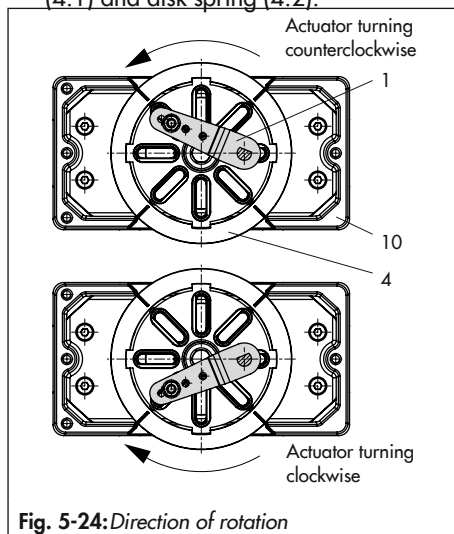

Fig. 5-24: Direction of rotation
6. Unscrew the standard follower pin (2) from the positioner's M lever (1). Attach the follower pin (Ø5 mm) included in the mounting kit to pin position 90°.
7. Mount connecting plate (6) for required G ¼ connecting thread or pressure gauge bracket (7) with pressure gauges on the positioner. Make sure that the two seals (6.1) are seated properly. Double-acting springless rotary actuators require the use of a reversing amplifier on the connection side of the positioner housing (see section 5.6.7).
8. Place positioner on housing (10) and screw it tight. Taking the actuator's direction of rotation into account, adjust lever (1) so that it engages in the correct slot with its follower pin (Fig. 5-24).